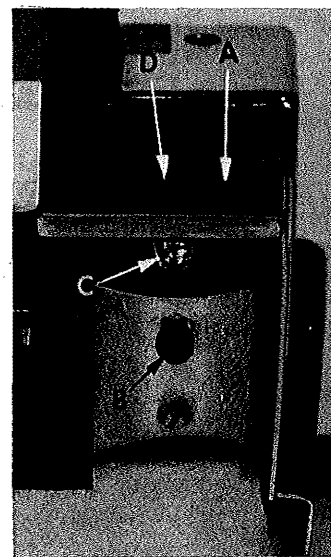

Fig. 3
CAUTION: When removing the cloth plate (A, Fig. 3) loosen the cloth plate stud locking screw (B) and lift up cloth plate with the cloth plate stud (C) and cloth plate screw (D) assembled.